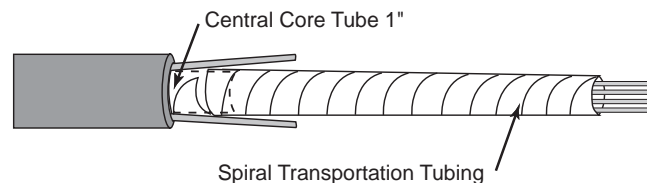

Figure 16
2. Push the spiral tubing all the way up between the strength members and the central core tube. (Fig. 16)